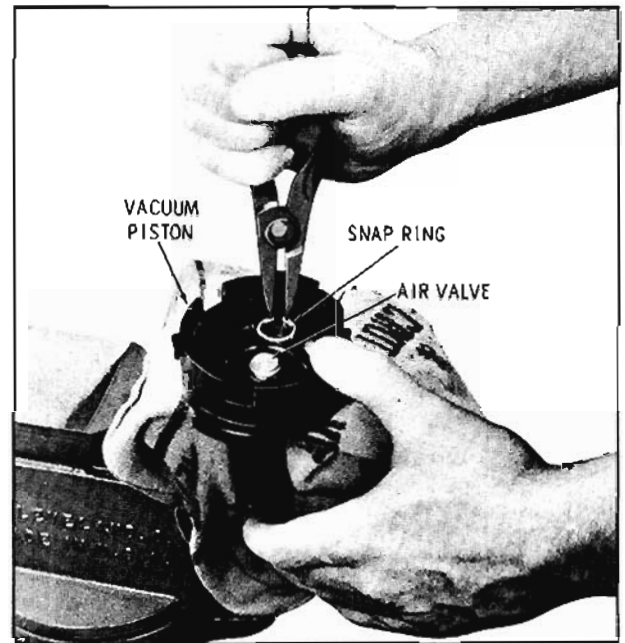

Fig. 11-34 Removing Snap Ring
7. Position the vacuum piston in a vise padded with shop towels. Do not clamp vise on tube. Using Truarc pliers J-4880, remove the snap ring on the air valve. (Fig. 11-34)
14. Position the vacuum piston assembly in a padded vise, tube down. Do not clamp tube. Using Truarc pliers J-4880, install the snap ring into the groove in the air valve. (Fig. 11-34)